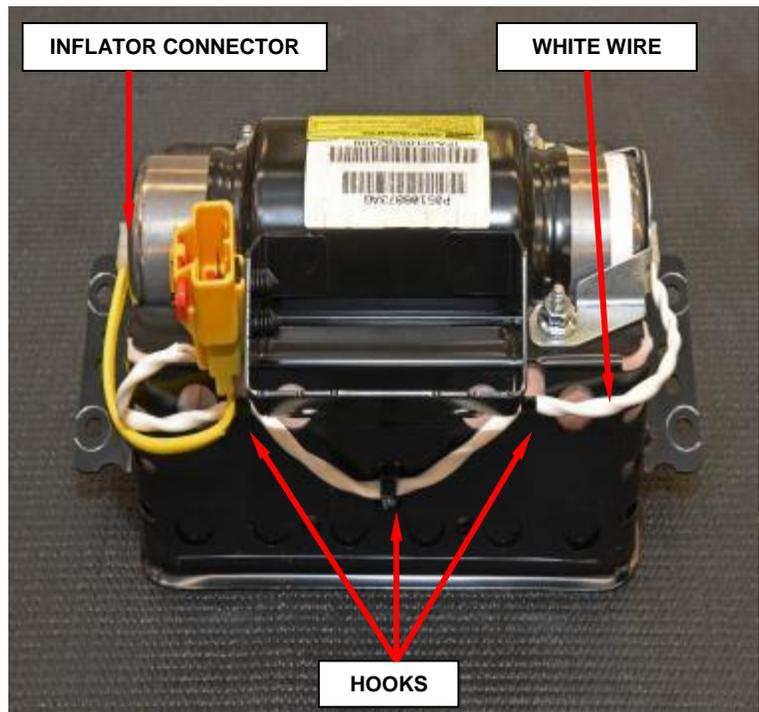

Figure 62 – Retrofit Complete
- r. Attach the white wire to the three hooks on the housing (Figure 62).
- t. Connect the single yellow wire inflator connector to the end of the inflator after removing the protective tape from the end of the inflator (Figure 62).
- u. Passenger airbag retrofit is complete (Figure 62).